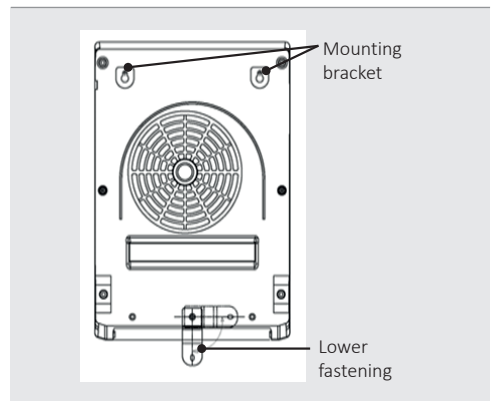

Fig.4: Attachment
5. The lower fastening (see Fig. 4) must be attached for a secure hold. Turn this downwards for the purpose. Draw a marking through the hole onto the wall.